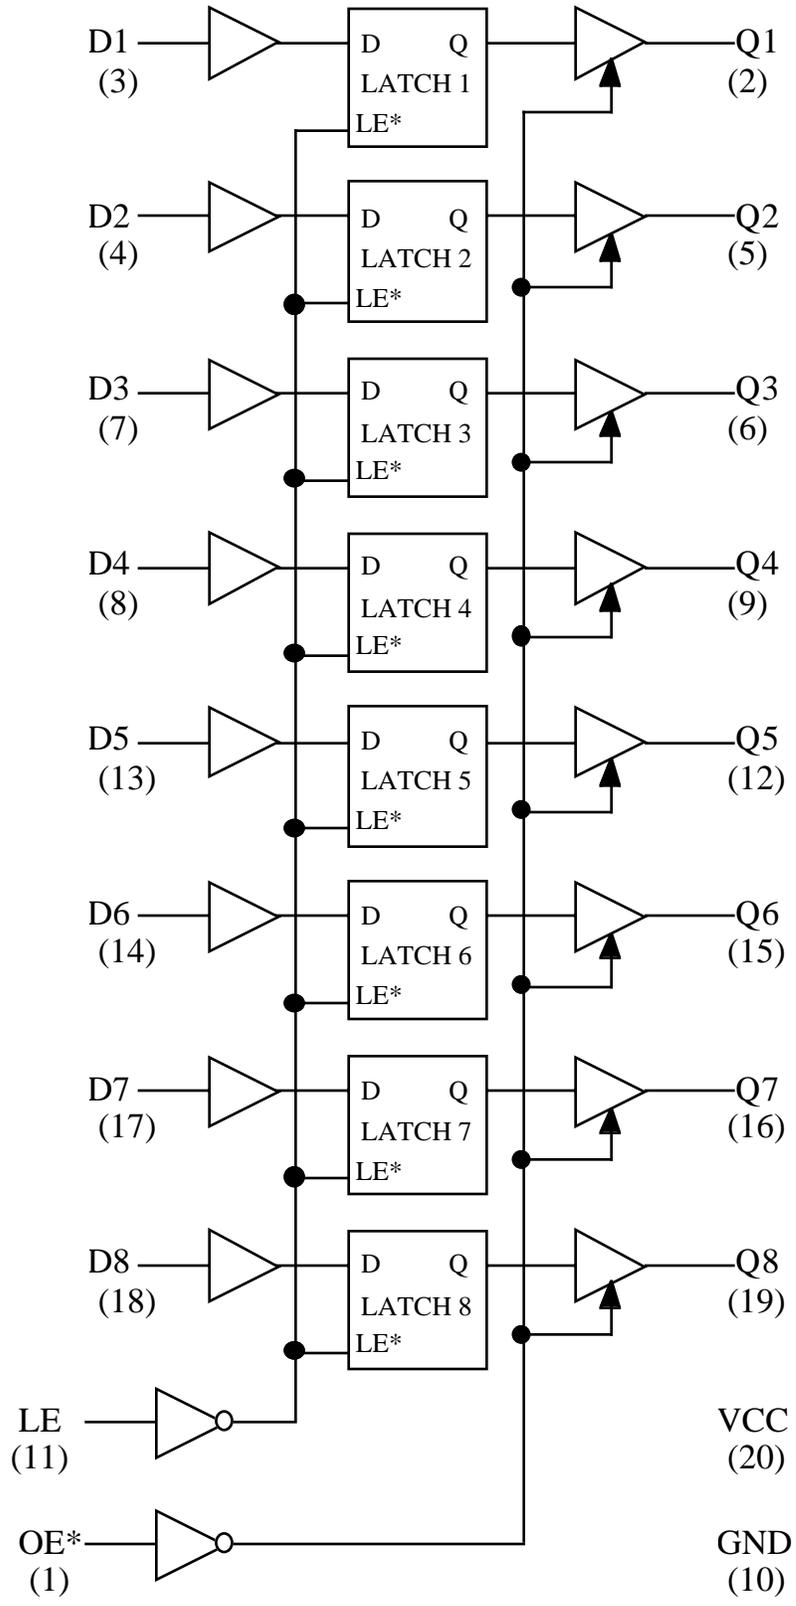
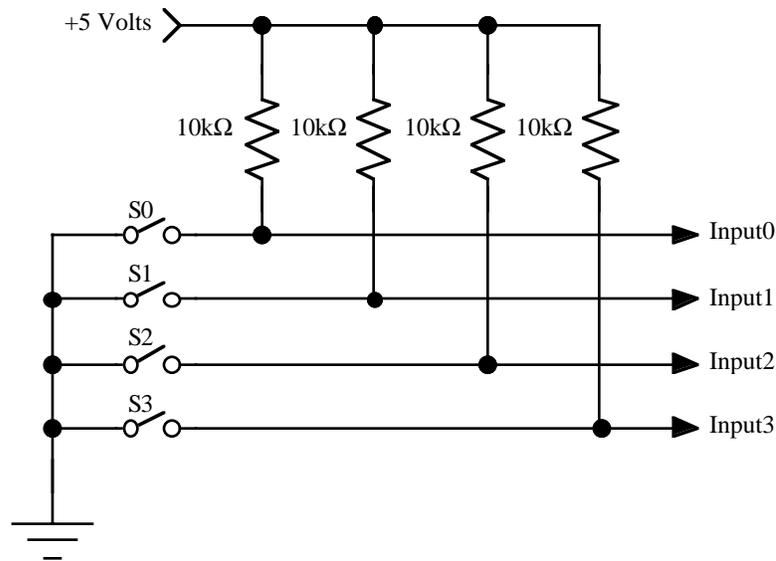
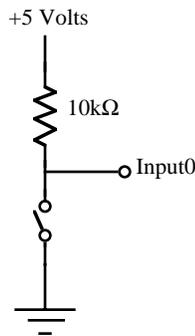
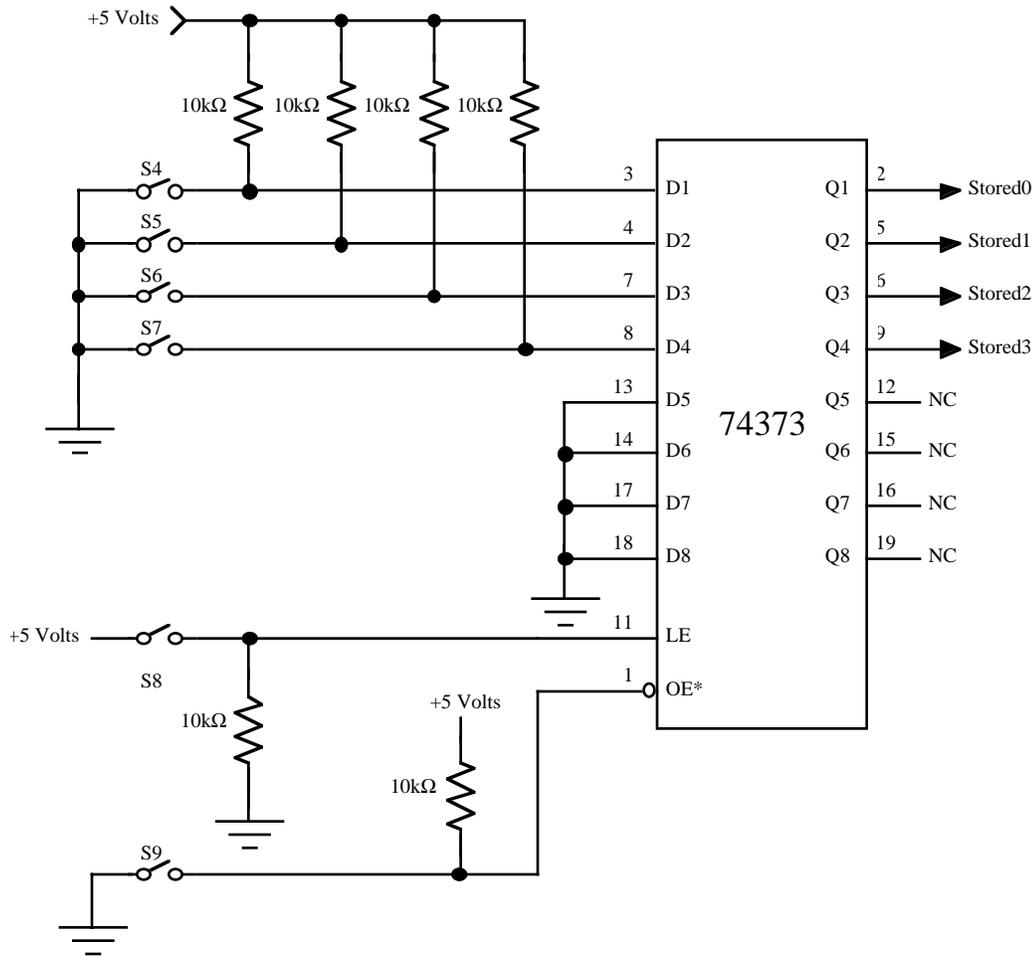

Figure 12. 74373 Octal D-type transparent latch
Figure 13. Data input
Figure 14. “Pull up” resistor arrangement
Figure 15. Data memory
The actual latch (the 74373) you will use in this lab is shown in Figure 12. The 74373 consists of eight D-type transparent latches with tri-state outputs. When the LE input is HIGH (+5 volts), data at the D_n inputs enters the latches. When the LE input is HIGH the latches are transparent, i.e., a latch output will change state each time the corresponding D-input changes. When the LE input is LOW (0 volts) the latch stores the information that was present at the time the LE input changed from HIGH to LOW. When the OE* input is LOW, the contents of the eight latches are available at the Q_n outputs. When the OE* input is HIGH, the outputs go to the high-impedance OFF state. The LE and OE* inputs operate independently of each other. For example, operation of the OE* input does not change the contents of the latches. The Electronics Workbench simulation uses a simulated 74373 which does not use standard notation for the control inputs, i.e., LE is labeled C, and OE* is labeled OC. These are minor differences and do not affect the electrical operation of the integrated circuit.
Figure 13 shows the data input component of the programmable digital lock. The data input component consists of four switches and resistors configured in what is known as a “pull up” arrangement as shown in Figure 14.
When the switch in Figure 14 is open the 5 Volt source is connected to the output (labeled Input0) through the 10k resistor and the output voltage is +5 volts (logical 1). When the switch is closed the bottom end of the 10k resistor is connected to ground through the switch producing an output voltage of 0 volts (logical 0). The function of the 10k resistor is to limit the current drawn from the +5 volt power supply when the switch is closed. As a result the actual value of resistance is not critical and real circuits typically use values between 1kΩ and 10kΩ. Arrays of switches such as
those shown in Figure 13 are usually implemented as “DIP” switches similar to those found on many peripheral boards in your computer.
The data memory section of the programmable digital lock is shown in Figure 15. It contains another four switches which function identically to those shown in Figure 13, i.e., when they are open the voltage applied to the D inputs of the 74373 is a logical “1” and when they are closed the input voltage is a logical “0”. The 74373 is a special memory made from D-type flip flops and is known as a “transparent” D-type latch.
2. Build a data input circuit according to Figure 13. This circuit uses a DIP (Digital In-line Package) switch that looks like an integrated circuit. Figure 17(a) shows a DIP switch which contains four mechanical switches as shown in Figure 17(b). These on-off switches can be conveniently switched using a pen or pencil. This circuit will be used for all of the digital logic chips that you will test. HINT: Verify that your input circuit operates as expected using a digital multimeter.
5. Now insert a 74373 into your protoboard. Referring to Figure 12 for the +5 and ground connections, make the power and ground connections. You will build and test a subset of Figure 15 in this part of the lab.
6. Connect your data input circuit (Figure 13) to the 74373's inputs as shown in Figure 15. Connect pin 1 to ground with a wire; connect pin 11 to +5 volts through a 10k Ω resistor. Unlike Figure 15 there are no connections to D3 and D4 from your data input circuit. Similarly Q3 and Q4 are not used in this lab.
12. To investigate the transparent mode of the 74373 integrated circuit in Electronics Workbench operate the switch labeled I (capital I) by typing a capital-I on your computer keyboard. In this mode whatever appears at the input of the 74373 will appear at its output. Try typing any combination of capital-A, capital-B, capital-C, and capital-D. This will operate the four switches labeled A, B, C and D in the Electronics Workbench simulation. These operate as the switch shown in Figure 14 to generate logical "0" or "1" at the inputs of the 74373. As you type capital-A, capital-B, capital-C, and capital-D on your keyboard the LEDs connected to the output of the 74373 should change state to represent the state of the switches — this is what is meant by transparent, the 74373 acts like a wire in this mode. NOTE: If your LEDs do not change this typically means that the I or O switches are in the wrong position. The transparent mode is not a very interesting mode.